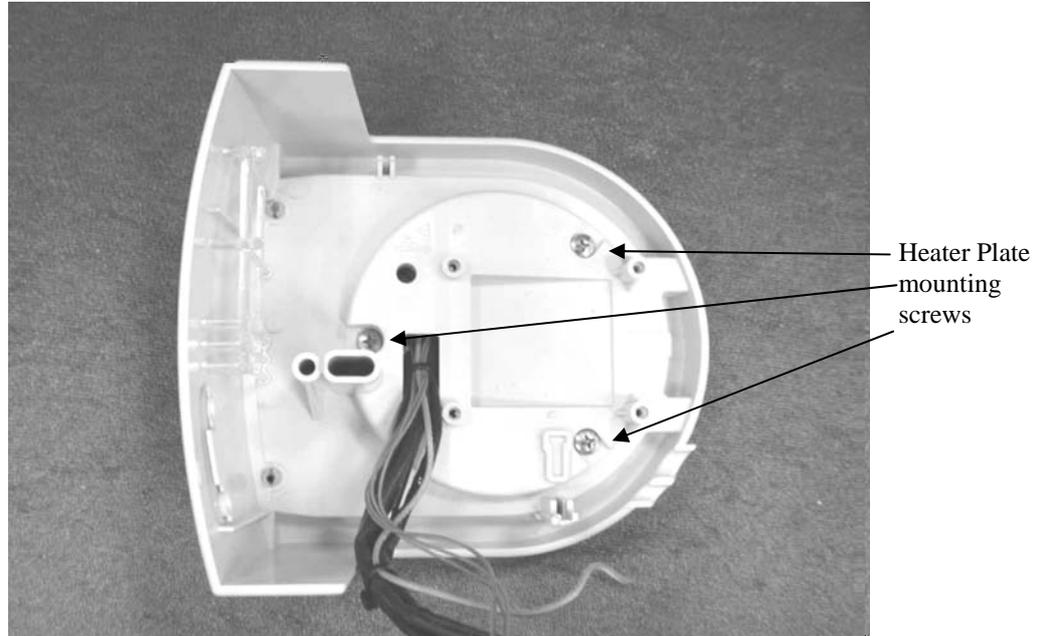

Figure 6.6: Location of heater plate mounting screws
3. Unscrew the three heater plate mounting screws (refer to Figure 6.6).